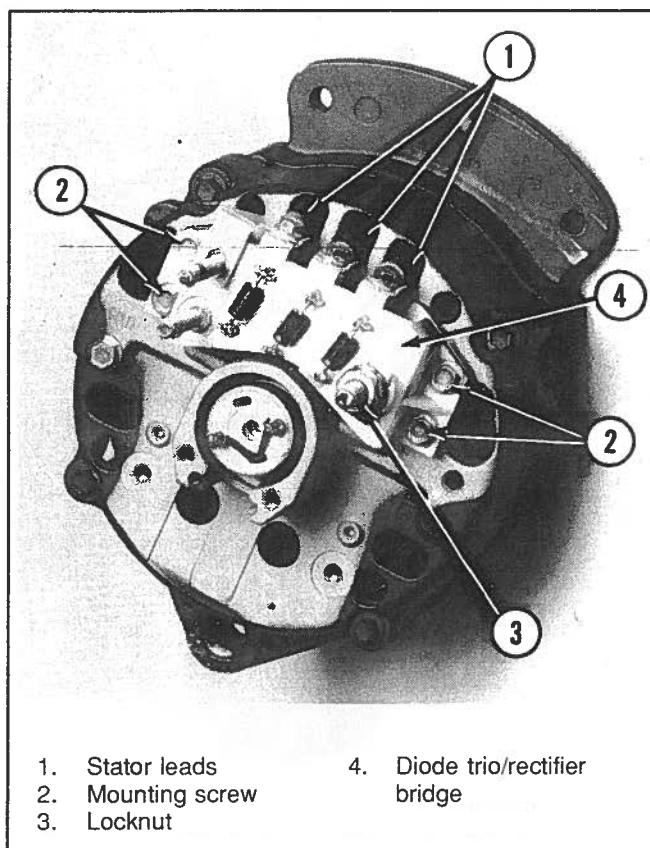

Figure 6-89. Installing Diode Trio/Rectifier Bridge
9. Install the diode trio/rectifier assembly as follows (Figure 6-89):